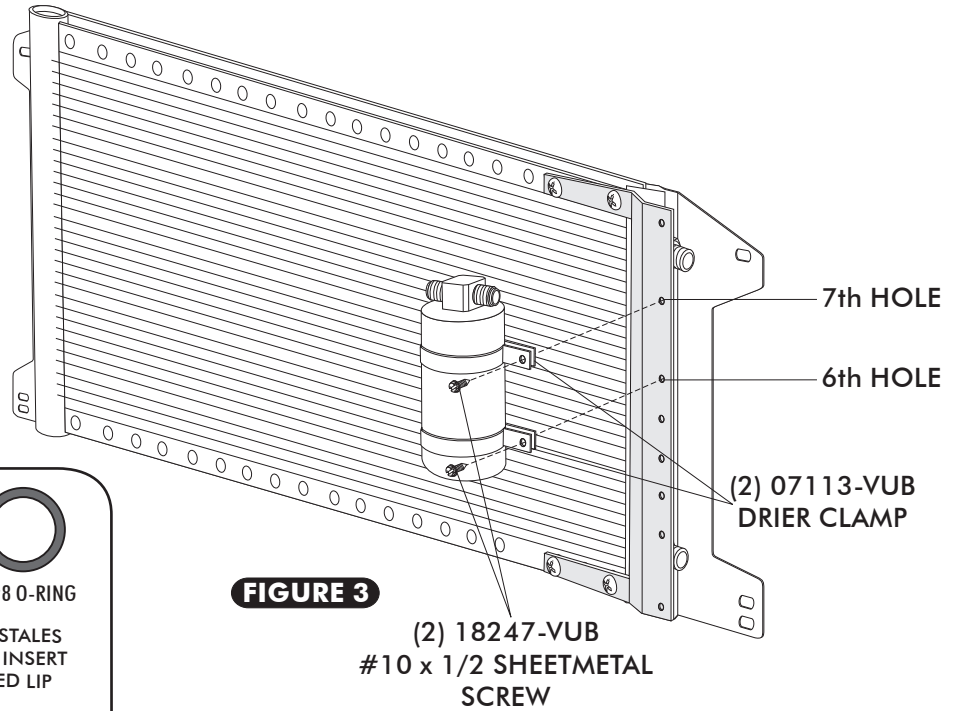

FIGURE 3
- INSTALL DRIER CLAMPS ON DRIER AS SHOWN IN FIGURE 3.
- USING (2) #10 X 1/2 SHEETMETAL SCREWS, INSTALL DRIER ON BRACKET IN THE 6TH AND 7TH HOLES FROM THE BOTTOM OF BRACKET AS SHOWN IN FIGURE 3.